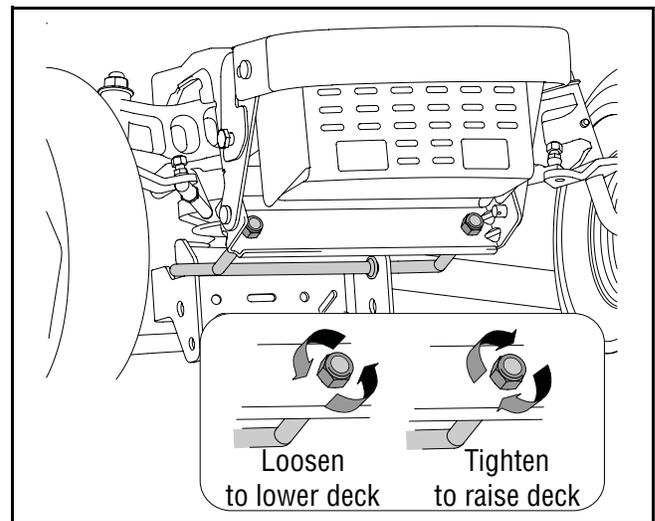

Figure 12
6. Locate the two lock nuts on the front side of the stabilizer bracket. See Figure 12. Tighten the lock nuts to raise the front of the deck; loosen the locknuts to lower the front of the deck.